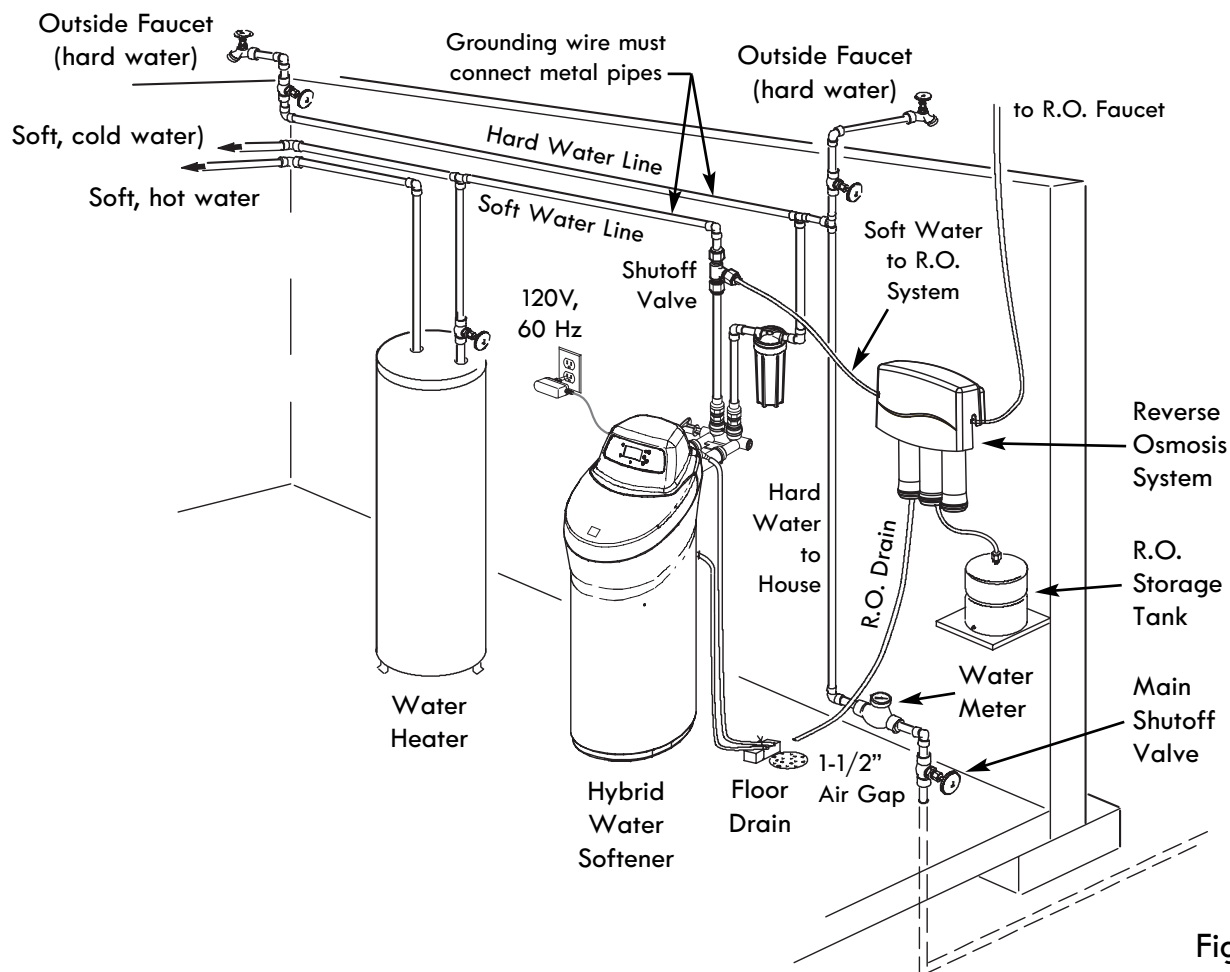

Figure 4
2. Place as close as possible to a water drain such as a floor drain, laundry tub, sump or standpipe (See Fig. 4).
4. Keep outside faucets on hard water to save soft water and salt. See Fig. 4.
7. A grounded, 120V, 60 Hz electrical outlet is needed near the softener to plug in the power supply (See Fig. 4). Be sure the outlet and power supply are in an inside location, protected from wet weather. Use a continuously "live" outlet, which cannot be accidentally switched off.